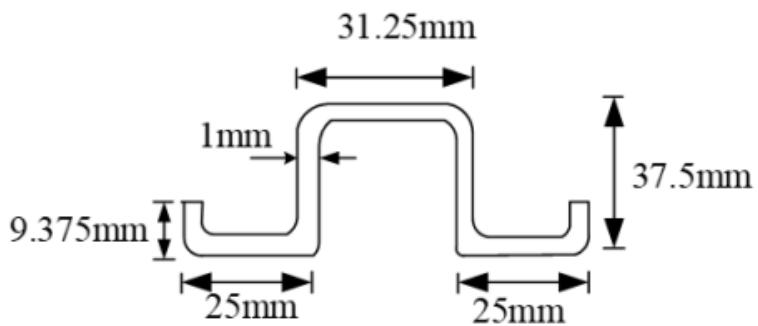

Figure 5b
- b) Calculate the crippling strength for the given formed section shown in the figure 5b using Needham's method. Assume $E=75$ GPa and the yield stress is 280 MPa. Thickness of the section is 1.0 mm and Total Area = 1.75 cm^2 .